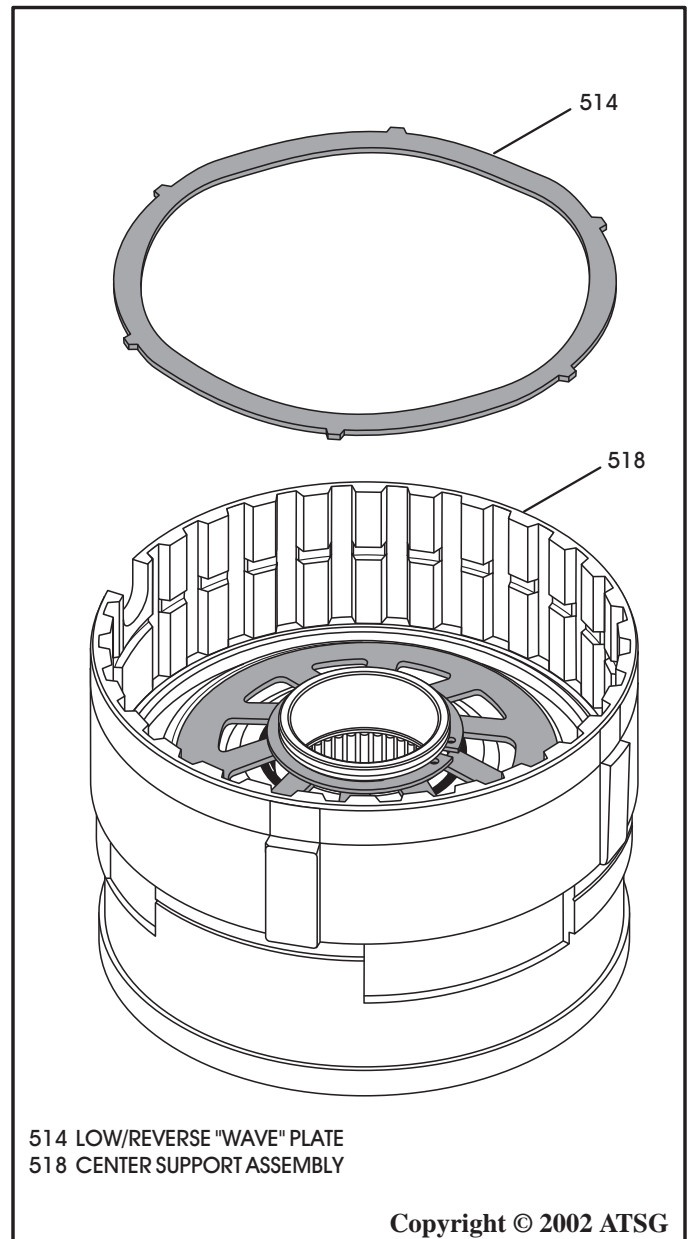

Figure 135
10. Install the low/reverse clutch "Wave" plate into center support, as shown in Figure 135.